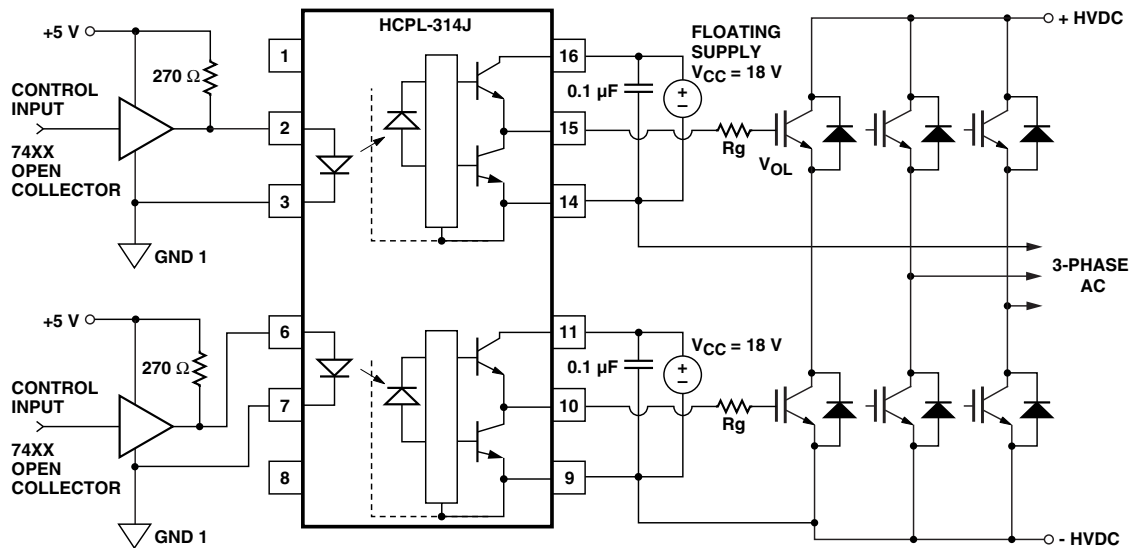
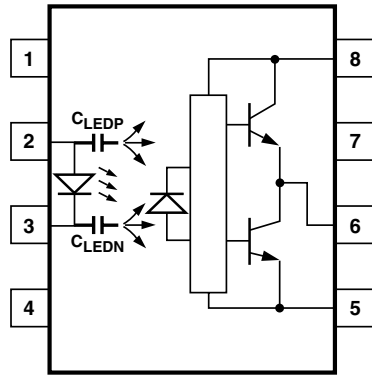
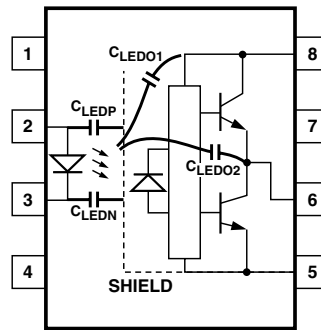
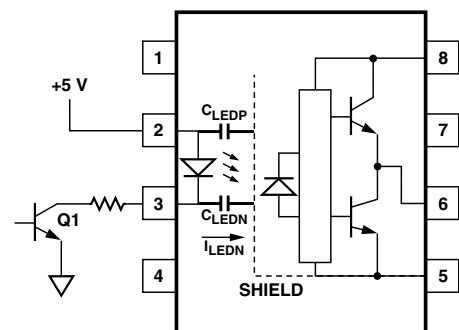

Figure 19. Recommended LED Drive and Application Circuit for HCPL-314J.
Figure 21. Optocoupler Input to Output Capacitance Model for Unshielded Optocouplers.
Figure 22. Optocoupler Input to Output Capacitance Model for Shielded Optocouplers.
Figure 24. Not Recommended Open Collector Drive Circuit.
To keep the IGBT firmly off, the HCPL-314J has a very low maximum  $V_{OL}$  specification of 1.0 V. Minimizing  $R_g$  and the lead inductance from the HCPL-314J to the IGBT gate and emitter (possibly by mounting the HCPL-314J on a small PC board directly above the IGBT) can eliminate the need for negative IGBT gate drive in many applications as shown in Figure 19. Care should be taken with such a PC board design to avoid routing the IGBT collector or emitter traces close to the HCPL-314J input as this can
result in unwanted coupling of transient signals into the input of HCPL-314J and degrade performance. (If the IGBT drain must be routed near the HCPL-314J input, then the LED should be reverse biased when in the off state, to prevent the transient signals coupled from the IGBT drain from turning on the HCPL-314J.) An external clamp diode may be connected between pins 14 & 15 and pins 9 & 10 (as shown in Figure 19) for the protection of HCPL-314J in the case of IGBTs switching inductive load.
**Step 1:** Calculate Rg minimum from the IOL peak specification. The IGBT and Rg in Figure 24 can be analyzed as a simple RC circuit with a voltage supplied by the HCPL-314J.
where  $K_{ICC} \cdot Q_g \cdot f$  is the increase in ICC due to switching and KICC is a constant of 0.001 mA/(nC\*kHz). For the circuit in Figure 19 with IF (worst case) = 10 mA, Rg = 32 Ω, Max Duty Cycle = 80%, Qg = 100 nC, f = 20 kHz and TAMAX = 85°C:
Without a detector shield, the dominant cause of optocoupler CMR failure is capacitive coupling from the input side of the optocoupler, through the package, to the detector IC as shown in Figure 21. The HCPL-314J improves CMR performance by using a detector IC with an optically transparent Faraday shield, which diverts the capacitively coupled current away from the sensitive IC circuitry. However, this shield does not eliminate the capacitive coupling between the LED and optocoupler pins 5-8 as shown in Figure 22. This capacitive coupling causes perturbations in the LED current during common mode transients and becomes the major source of CMR failures for a shielded optocoupler. The main design objective of a high CMR LED drive circuit becomes keeping the LED in the proper state (on or off) during common mode transients. For example, the recommended application circuit (Figure 19), can achieve 10 kV/μs CMR while minimizing component complexity.
The open collector drive circuit, shown in Figure 24, can not keep the LED off during a  $+dV_{CM}/dt$  transient, since all the current flowing through  $C_{LEDN}$  must be supplied by the LED, and it is not recommended for applications requiring ultra high  $CMR_1$  performance. The alternative drive circuit which like the recommended application circuit (Figure 19), does achieve ultra high CMR performance by shunting the LED in the off state.